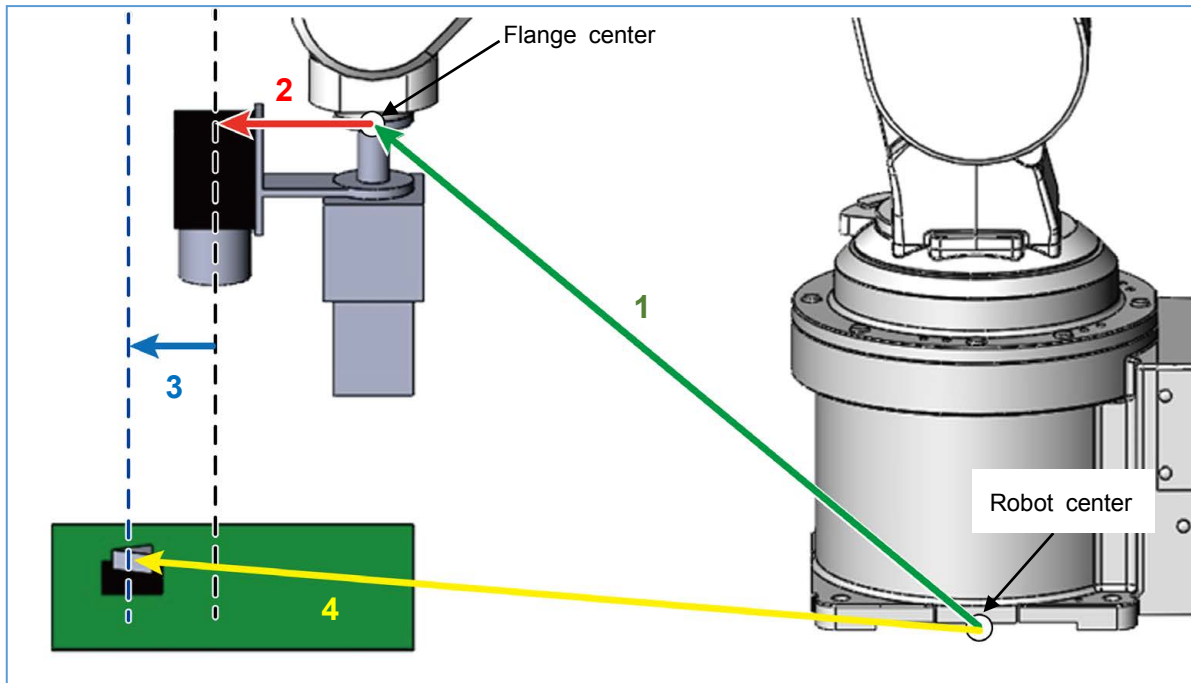

Fig. 4.4: Principle of how the position of the workpiece can be calculated using the hand eye
- The robot always knows where the center of the flange is. (1 in Fig. 4.4)
- The vision sensor is attached to the flange. Therefore, even if the robot moves, the distance between the flange center and the vision sensor center is always the same. In the tool coordinates, the coordinate values of the vision sensor center change according to those of the flange center. (2 in Fig. 4.4)
- The robot can find workpieces only when they are within the vision sensor's FOV. The position of the workpieces can be calculated with reference to the center of the vision sensor. (3 in Fig. 4.4)